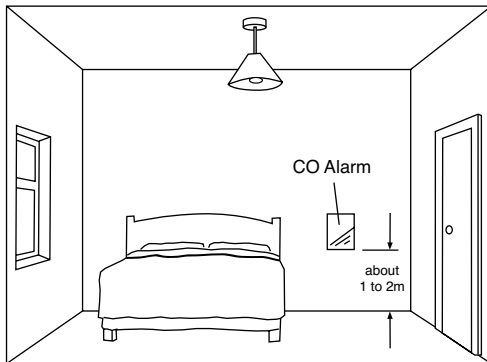

Figure 3. Location in bedroom & rooms remote from the appliance
- In rooms with sloped ceilings, the CO Alarm should be located at the high side of the room (see *Figure 3*)
3.4 IF LOCATING THE CO ALARM IN A BEDROOM OR IN ROOMS REMOTE FROM A FUEL BURNING APPLIANCE (see Figure 3)